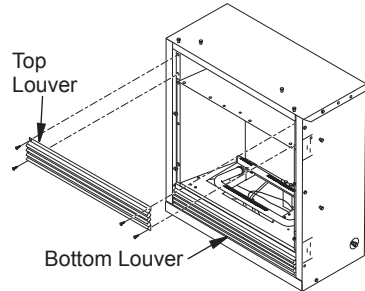

Figure 15 - Removing Top Louver and Opening Bottom Louver
- Remove 4 screws from upper louver (see Figure 15). Save these screws.
- Open lower louver door by swinging door down (see Figure 15).
10. Reinstall upper louver beginning with bottom screws (see Figure 15, page 13). Close lower louver door.
6. Reinstall upper louver beginning with bottom screws (see Figure 15, page 13) and close lower louver.